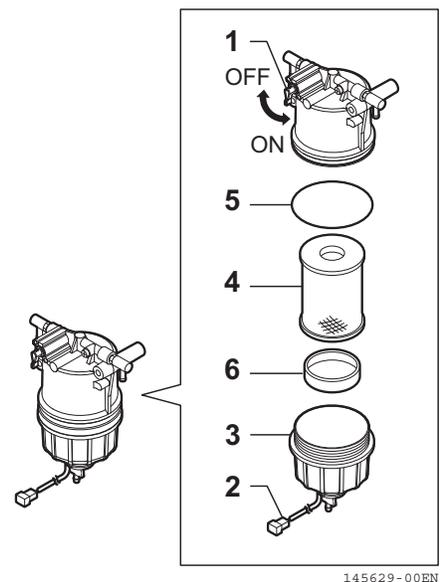

Fig. 8-57
2. Turn the fuel cock (Fig. 8-57, 1) to OFF position.
3. Disconnect the water detection sensor coupler (Fig. 8-57, 2).
4. Turn the cup (Fig. 8-57, 3) counterclockwise with a filter wrench LO, and remove it while preventing the fuel from being spilled. Completely wipe off any spilled fuel.
5. Remove the element (Fig. 8-57, 4) and O-ring (Fig. 8-57, 5).
6. Wash the inside of the cup (Fig. 8-57, 3) and the float (Fig. 8-57, 6) with new fuel oil thoroughly.
8. Check the O-ring (Fig. 8-57, 5) state, replace it with a new one if necessary, and install it to the cup (Fig. 8-57, 3).
9. Insert the float (Fig. 8-57, 6) into the cup (Fig. 8-57, 3), and reinstall them to the pre-filter main body. For installation, turn them to the right by hand without using any tool.
10. Connect the water detection sensor coupler (Fig. 8-57, 2).